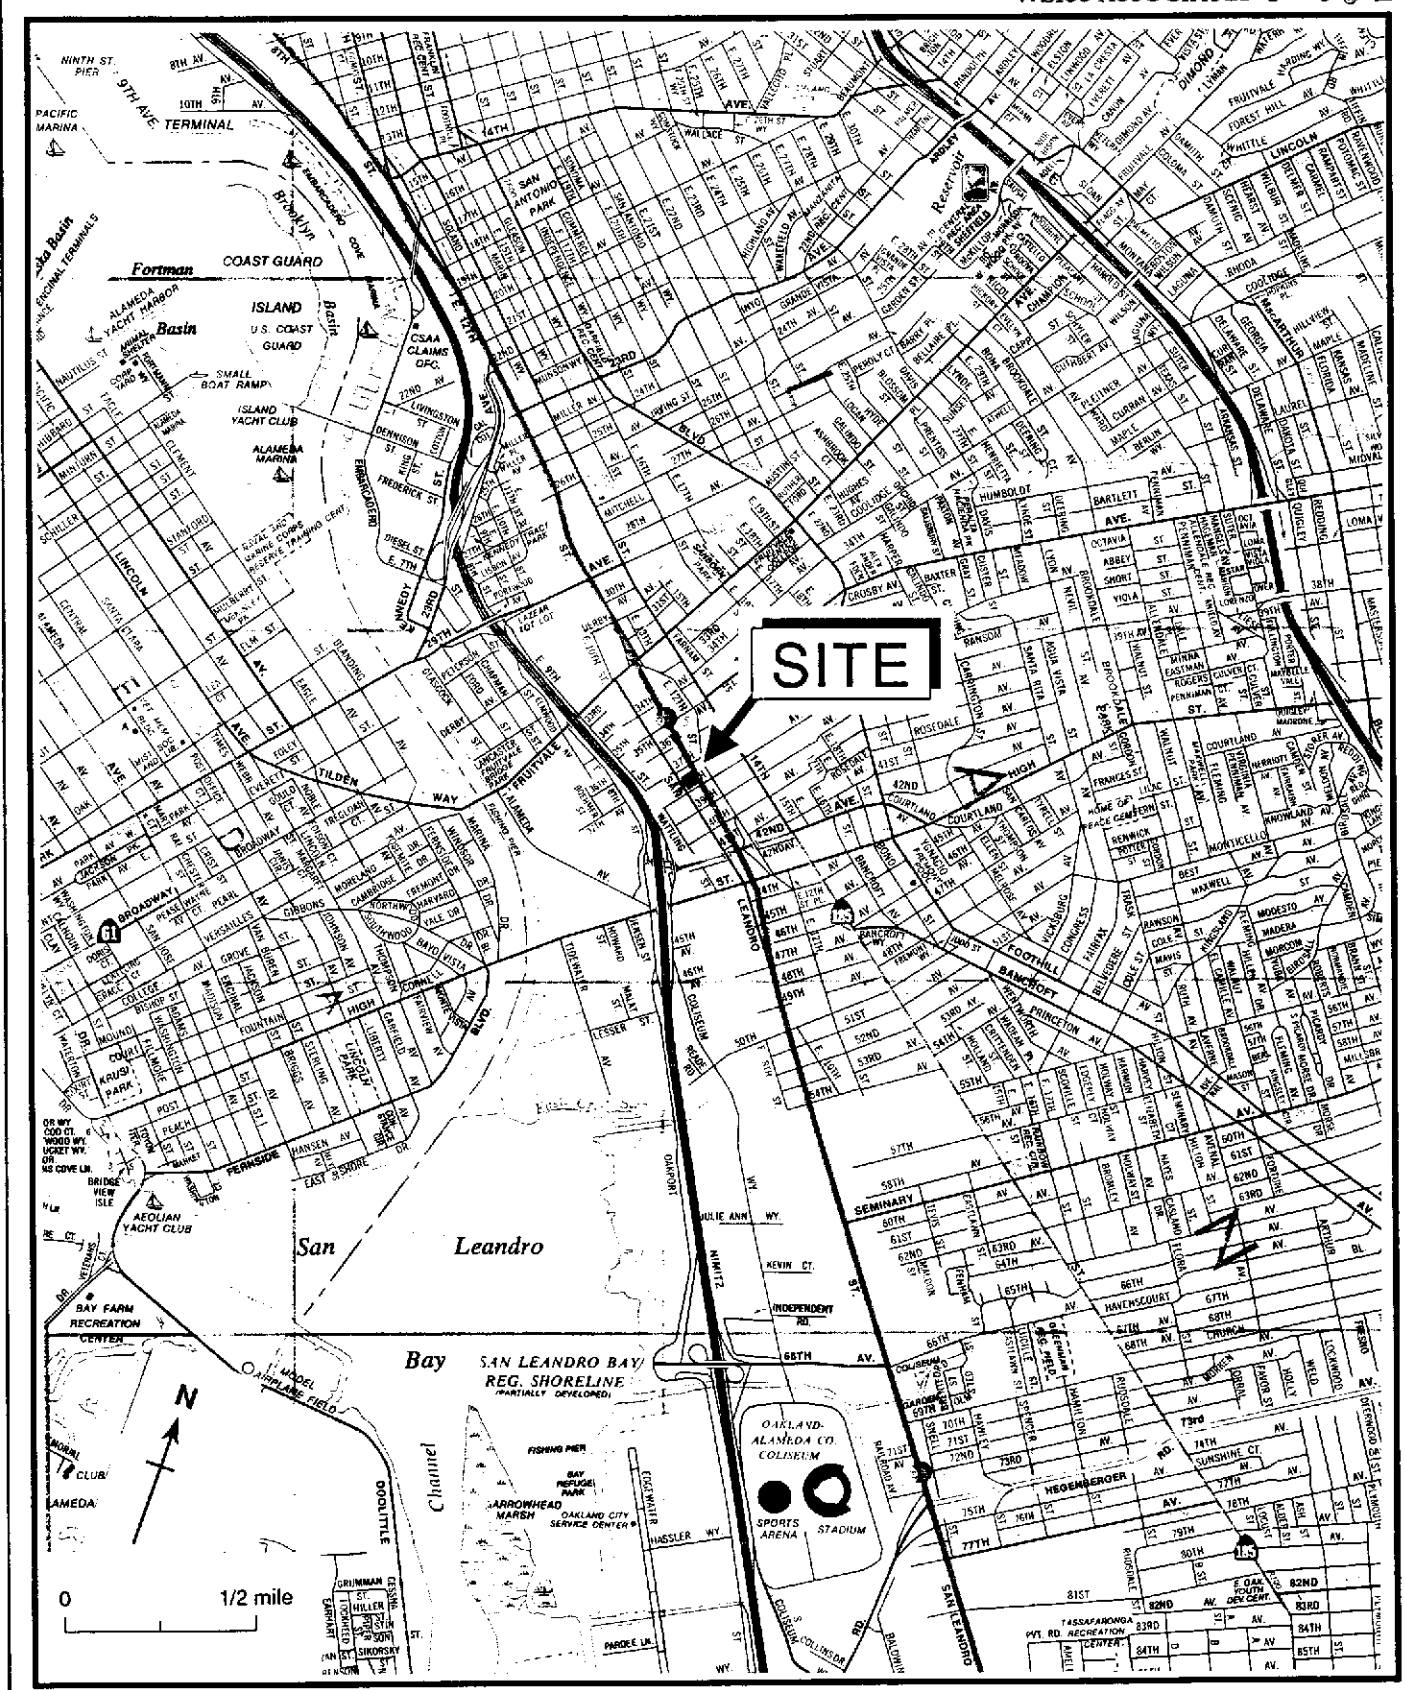
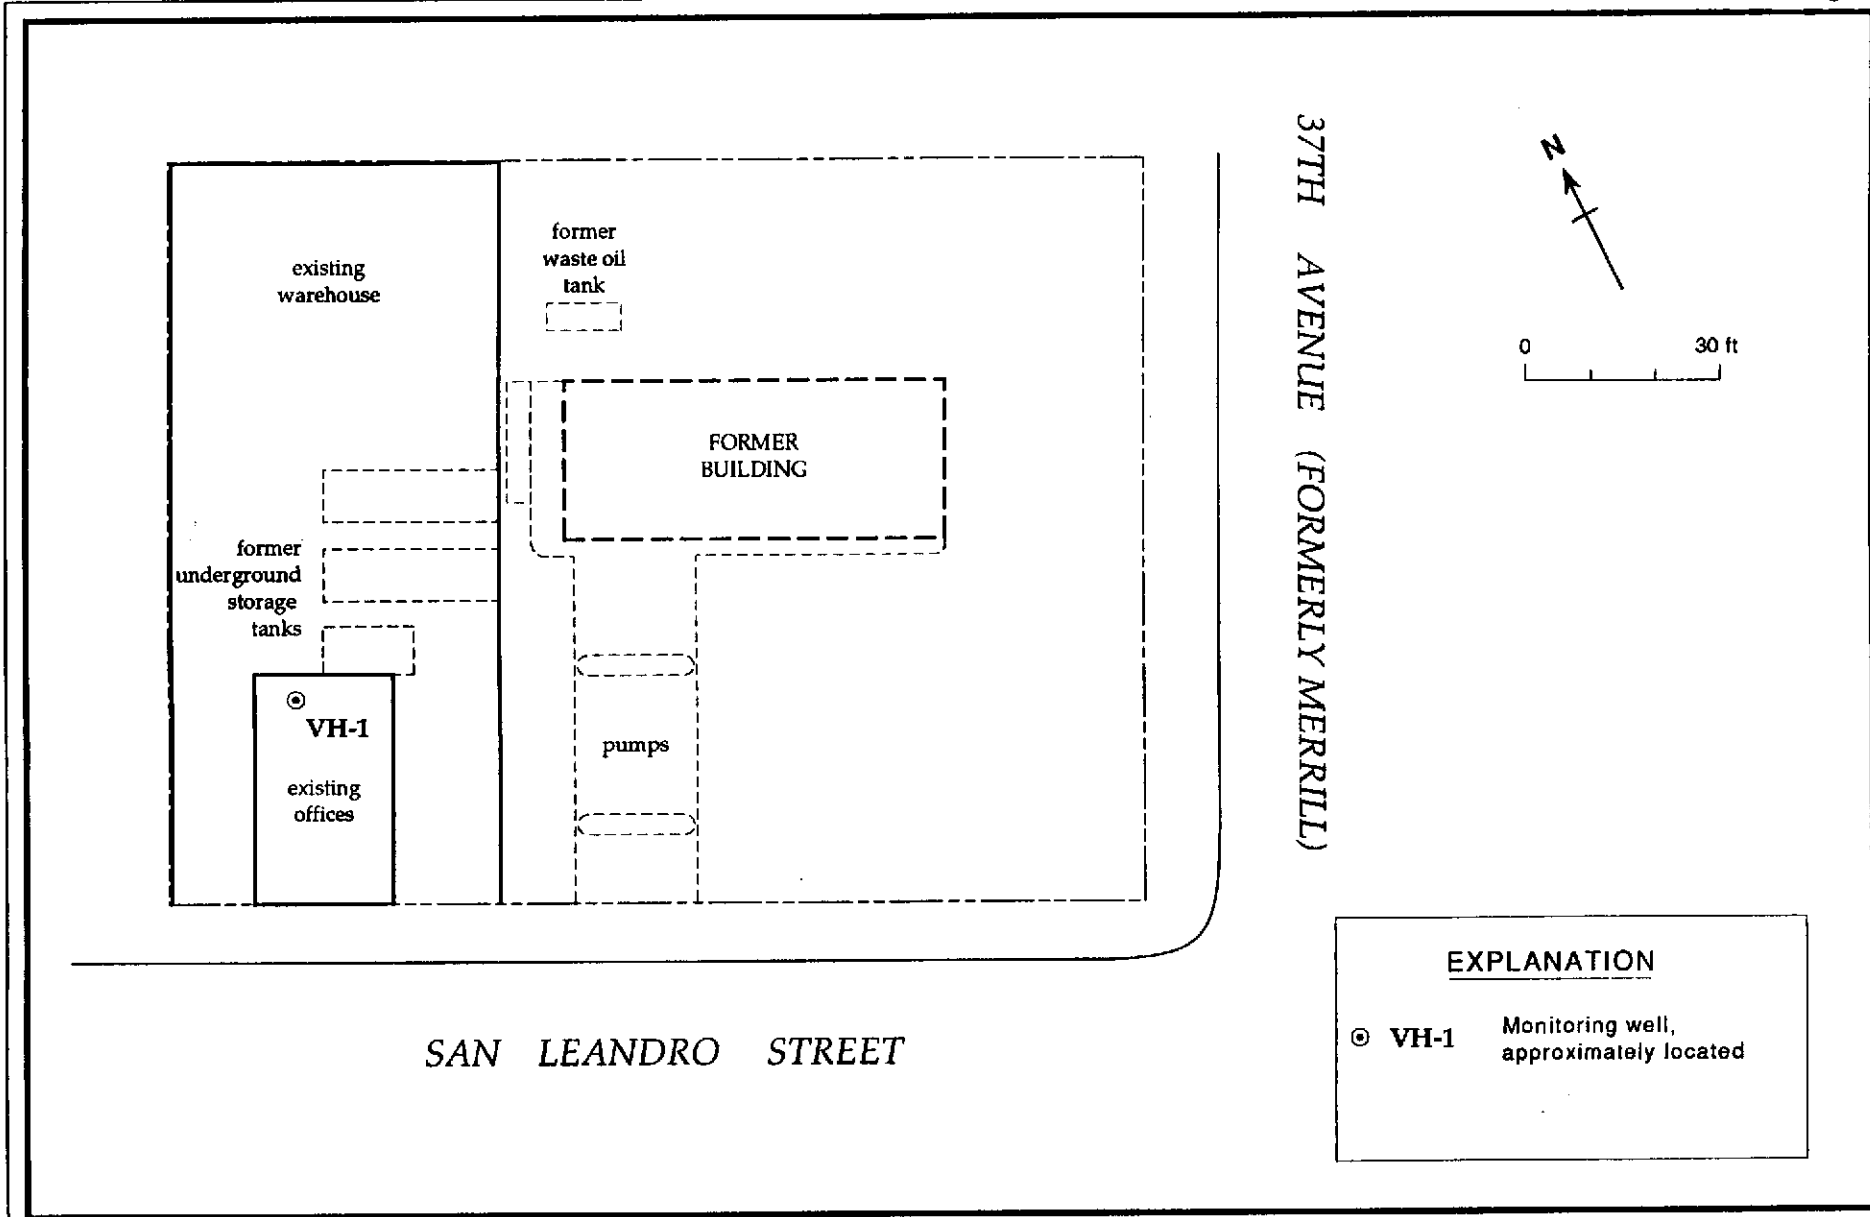

Figure 1. Site Location Map - Chevron Service Station #94612, 3616 San Leandro Street, Oakland, California
Figure 2. Monitoring Well Location - Former Chevron Service Station #94612, 3616 San Leandro Street, Oakland, California
As you requested, Weiss Associates (WA) is providing this Ground Water Monitoring Report for the subject site (Figure 1). WA sampled ground water monitoring well MW-1 (Figure 2) on March 7, 1991, in accordance with the requirements and procedures of the California Regional Water Quality Control Board - San Francisco Bay Region and local regulatory agencies.